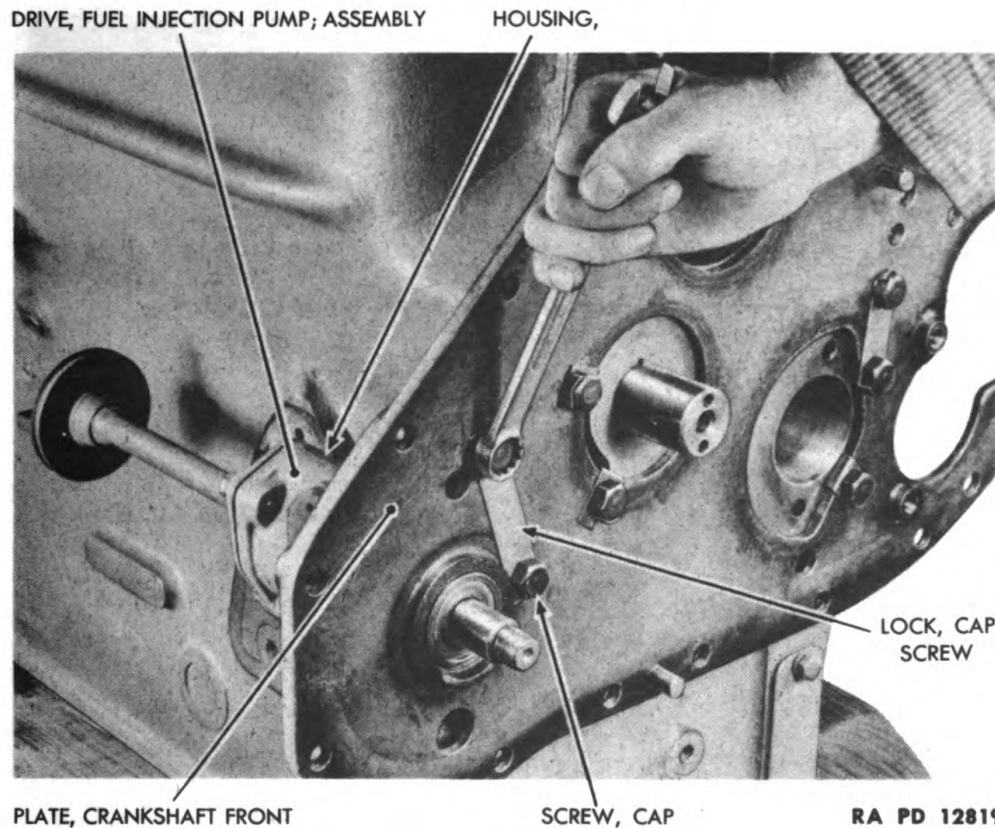

Figure 53—Fuel Injection Pump Drive Assembly Removal
(3) REMOVE FUEL INJECTION PUMP DRIVE ASSEMBLY (fig. 53).